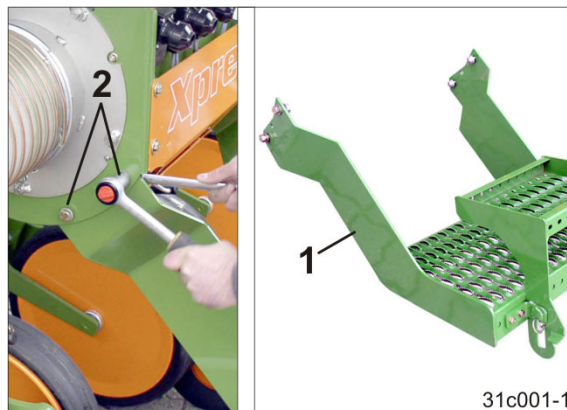

Fig. 10
2. Remove the loading boards (Fig. 10/1).
- 2.1 The loading board is attached with 4 bolts (Fig. 10/2).
6. Fit the loading boards (Fig. 10).